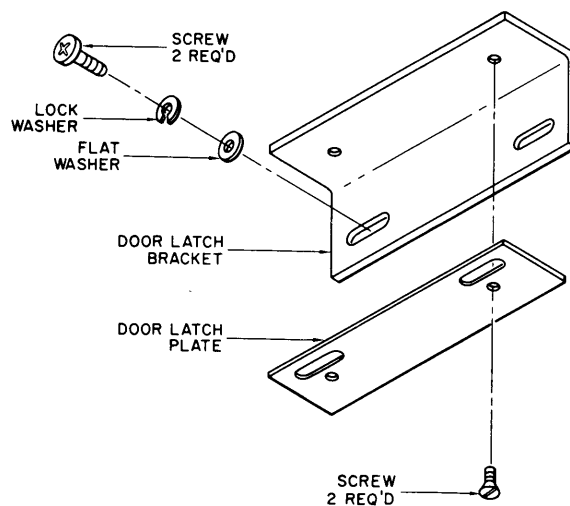

Figure 2-17. Door Latch Plates and Brackets, Installation Diagram.
- (1) Assemble door latch plates, figure 2-17, to door latch brackets with two phillips flat head screws.